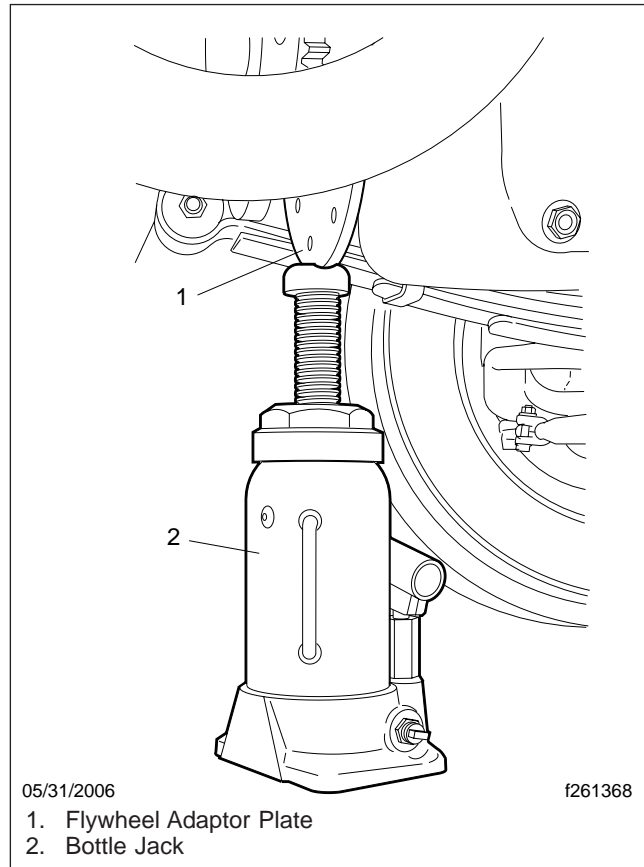

Fig. 6, Raising the Engine
18. Place a bottle jack under the flywheel adaptor plate. Raise the jack until it supports the weight of the engine and transmission. See Fig. 6.